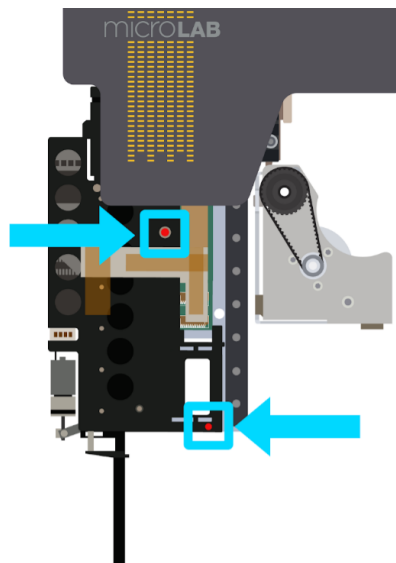

Figure 6–11: Locating pipetting head screws
- a. **Remove the two red screws indicated in Figure 6–11 using the 2 mm wrench included with the Prep.** The screws are located in the same place in both the front and rear pipetting head.